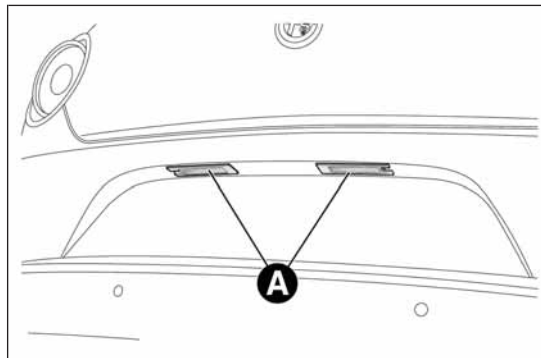

fig. 141
- ☐ remove the number plate light units fig. 141;